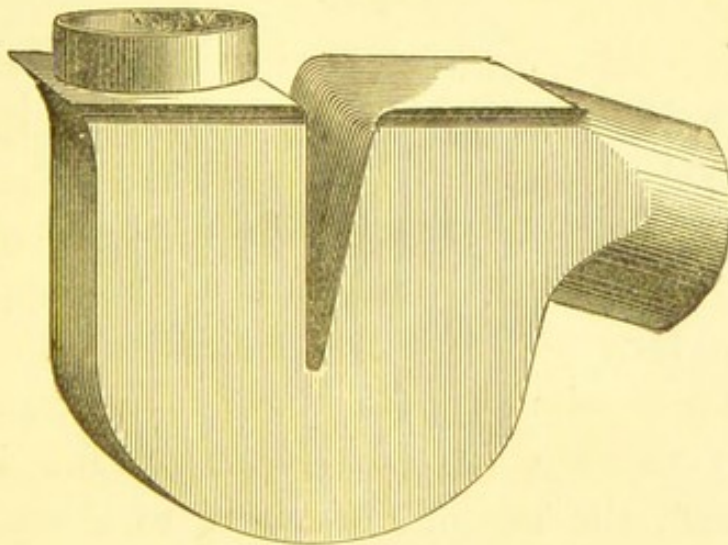
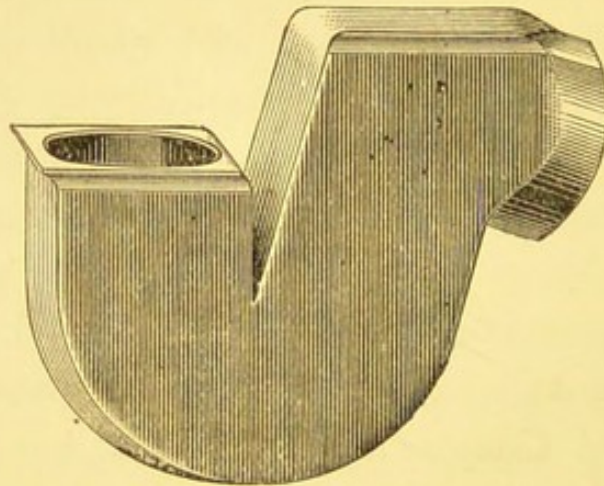
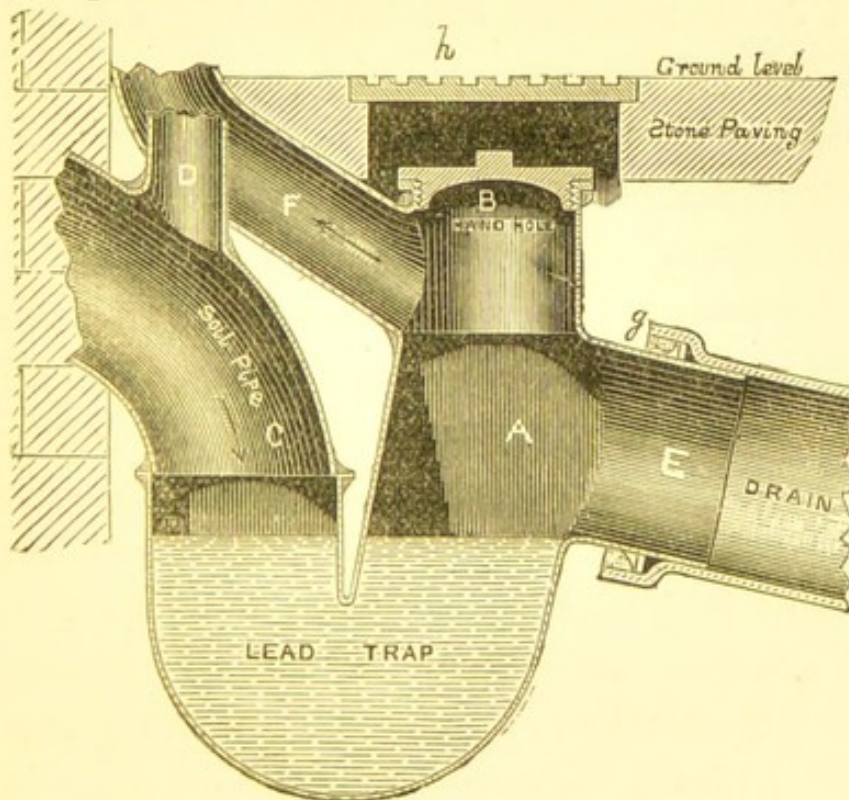
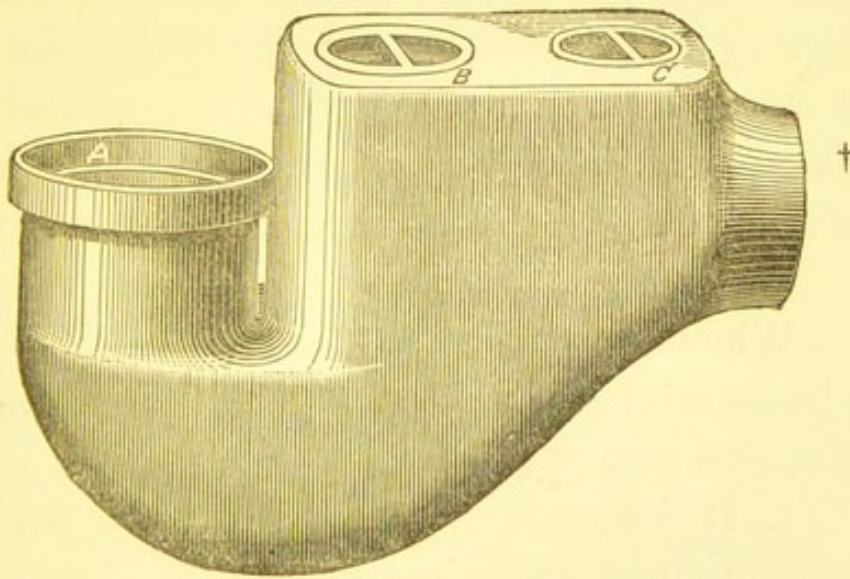

FIG. 12.
FIG. 13.
FIG. 14. SECTION.
FIG. 15.
*Soil-pipe Trap.*—This soil-pipe water-trap, Fig. 12, is similar in principle to the “mansion,” or “V-dip” trap. It is specially constructed for fixing at foot of soil-pipes, and connecting the same with drains. There are two sizes—one for
Figs. 12 and 13 show this trap in lead—Fig. 12 for vertical soil-pipe, and Fig. 13 for “horizontal.” The substance should always be strong, and never less than lead 7 lbs. to the superficial foot, and for good work 8-lb. lead should be used. Any skilled plumber can make this trap. In Fig. 13 the dip, or inlet, is kept a few inches lower than the top of the outgo, to allow for a horizontal soil-pipe to come into it without much increasing the depth of the trap (see Fig. 14, showing this trap fixed). The cheeks and band are of the same width at every part of the trap, except at the outlet, and so arranged as to give a water-dip of 1½ in. The outgo of the trap is rounded to fit the drain-pipe, and also to give a
Fig. 14 shows a section of this lead soil-pipe trap, fixed immediately *outside* the external wall of the house, with all its connections. These soil-pipe traps should never be fixed *inside* a house if
can escape into the open air; and also, when the screw-cap, B, Fig. 14, is removed for the inspection of the trap, or drain, or for cleaning out same, the drain will be exposed to the external air, instead of inside the house.
A, Fig. 14, shows a section of this trap with its water-dip of  $1\frac{1}{2}$  in.; B, the hand-hole, with a cap and screw over it—this is a *short* piece of  $4\frac{1}{2}$ -in. lead pipe soldered on the top of the trap, with a brass cap and screw soldered on the top of it; C, the soil-pipe coming through the wall; D, air-pipe, or “foot-ventilation” to the soil-pipe; E, connection of the outgo with the drain-pipe; F, ventilating-pipe to drain and trap; G, a moveable galvanised iron cover let into stone paving over the screw-cap to the trap, for access to it without disturbing anything.
The air-pipe, D, Fig. 14, must never be connected with the ventilating-pipe, F, Fig. 14, from the drains (see “Foot-ventilation,” Chapter VIII., page 57). Where the main drain is properly ventilated, and there is only a very short length of branch drain between this soil-pipe trap and the main drain, it is not necessary to have a ventilating-pipe, as shown at F, Fig. 14. But where the branch drain is a long length of piping, then it is important to have this ventilating-pipe, so that every part of the drain shall be properly ventilated.
Fig. 15 shows a pottery-ware trap,\* which the writer specially designed for fixing at the foot of soil-pipes. It is more suitable than lead for this purpose, and being fixed *outside* the house, the jointing is not of the same importance as connec-
tions when inside the house. It is a round-pipe trap with a *water-dip* of  $2\frac{1}{2}$  in. The inlet is kept low down, to receive the soil-pipe when it is brought through the external wall of the house, as shown in the lead soil-pipe trap, Fig. 14. But of course it is equally well adapted for receiving vertical soil-pipes. The soil-pipe can be "tafted" at the end, or a lead flange can be soldered at the foot of the pipe, as shown at *g*, Fig. 14, and fitted
into the socket of the trap at A, Fig. 15. The waste-discharges will then drive everything foreign out of the trap; but when the soil-pipes are *branched* into the dip of the trap, foul matter is splashed all over the inlet part of the trap to make it filthy. B, Fig. 15, is a movable cap for the hand to get into the trap to clean it out, and C, Fig. 15, is a provision for ventilating the drain at this point when necessary. A galvanised iron plate can be fixed over the hand-hole of this trap, as shown to lead trap, *h*, Fig. 14.